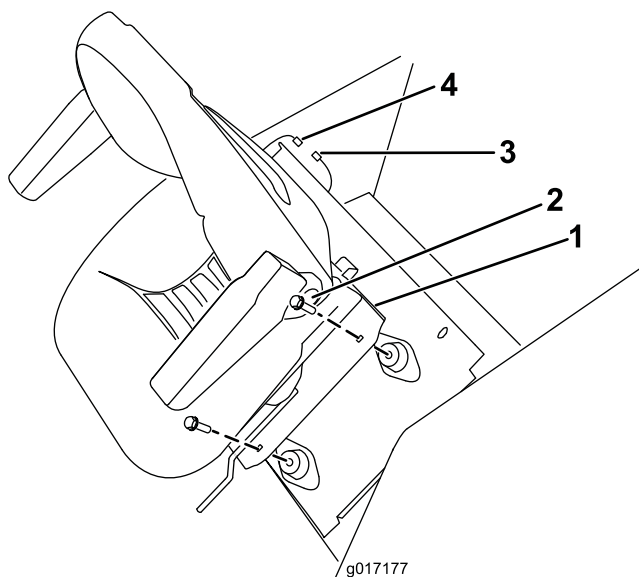

Figure 7
6. Secure the seat base to the seat mounts and seat plate with the fasteners previously removed (Figure 7).
7. Connect the wire harness to the seat wire connector (Figure 7).